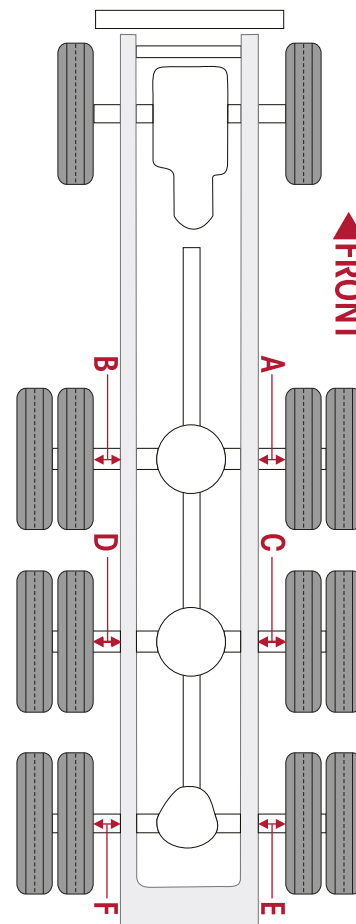

Figure 31: Checking Triaxle Lateral Alignment
6. If there are more axles, follow the same steps to measure, record and correct these. Refer measurement E and F in Figure 31.